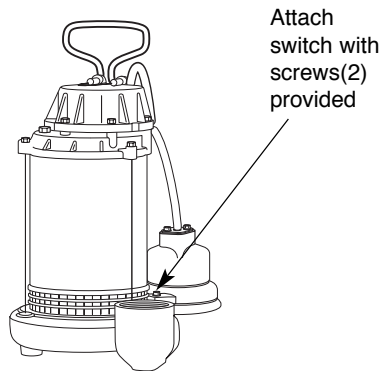

Figure 3 – Diaphragm Switch
4. Remove the two fasteners in the cast iron volute near the discharge area. Align the hole with the diaphragm switch and replace the fasteners without over tightening (*Figure 3*).